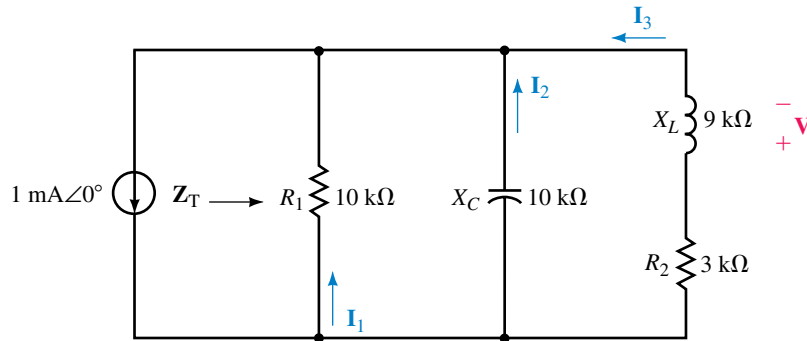

FIGURE 18–117
50. Refer to the circuit of Figure 18–118: